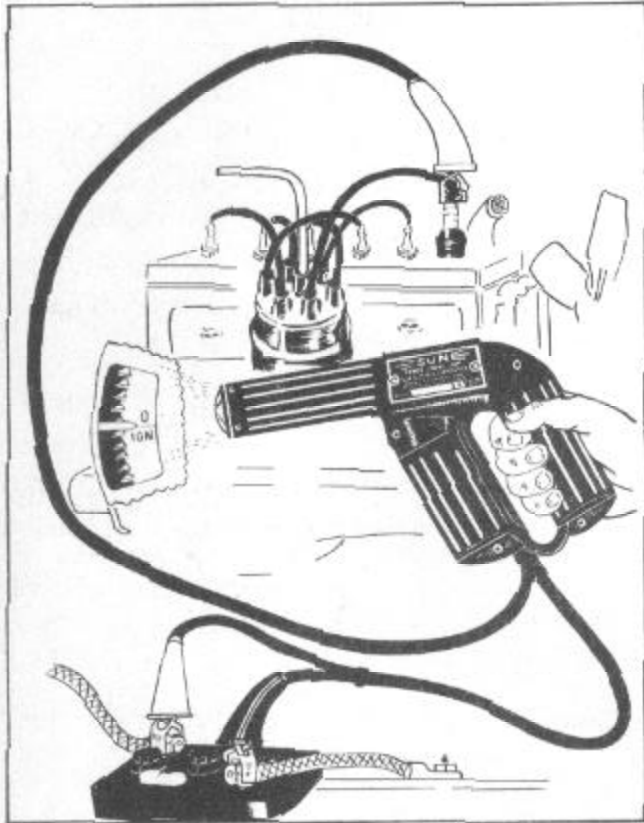

FIGURE 19
1. Connect the power timing light to #1 spark plug and battery as shown in Figure 19.